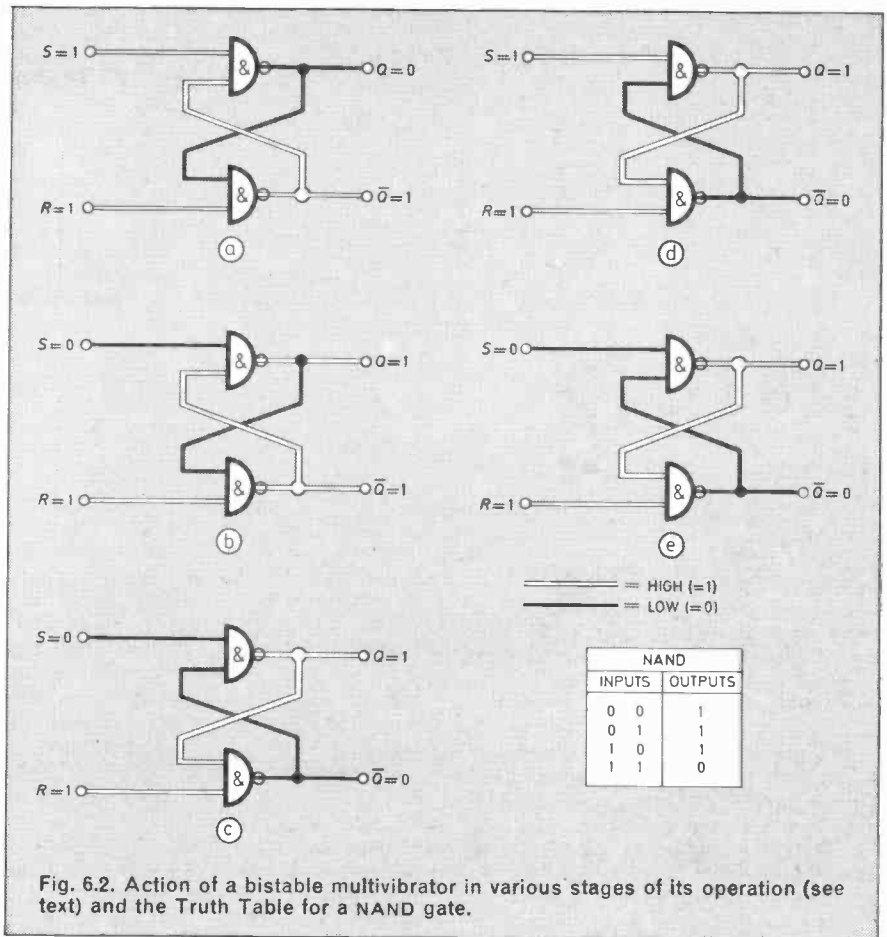

Fig. 6.2. Action of a bistable multivibrator in various stages of its operation (see text) and the Truth Table for a NAND gate.
The circuit has two inputs, Set (S) and Reset (R). It has two outputs, Q and \bar{Q} , of which \bar{Q} is normally the inverse of Q . Fig. 6.2 shows how the circuit works. Normally, both inputs are high (or 1), as at (a). The circuit is stable in this state, as you can check by comparing the inputs and output of each gate with the truth table.